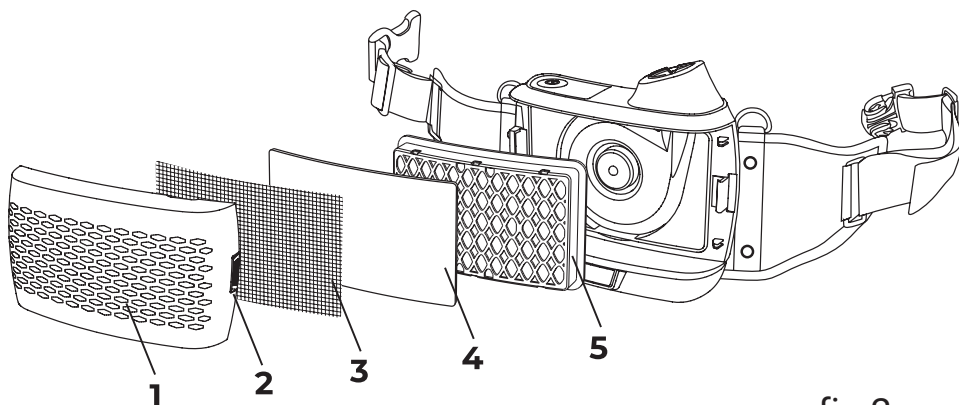

fig.2a
- Install the particulate filter according to Fig. 2a.